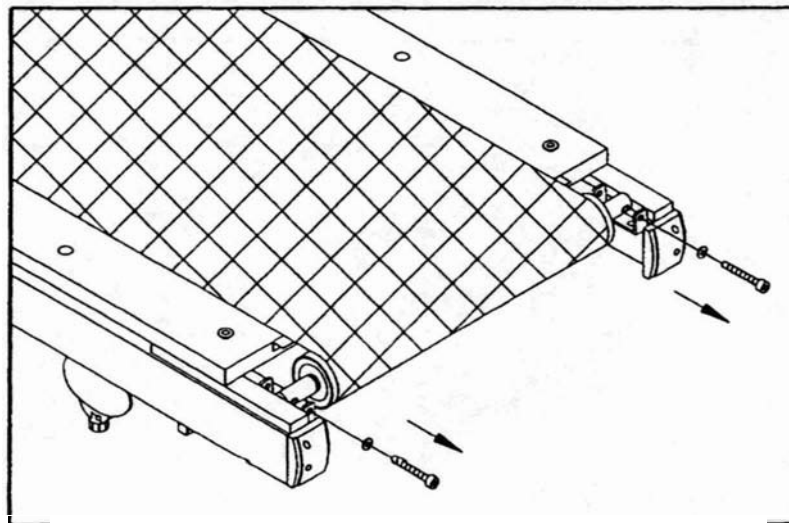

Fig.3
2. Remove screws securing on the rear roller. (see Fig.3)